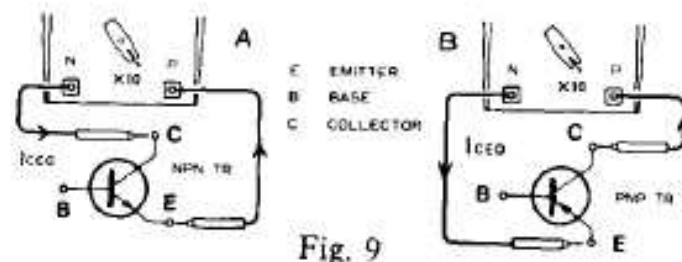
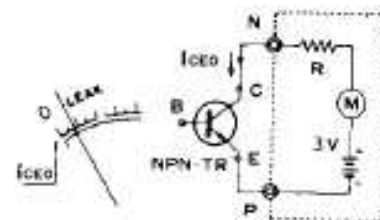

Fig. 9
Fig. 10
- 2-2 An NPN TR is connected as shown in Fig. 9-A, and a PNP TR, -B.
Represented electrically, Fig. 9 may otherwise be as Fig. 10, where the section on the right of the N and P terminals enclosed in the dotted line corresponds to the internal circuit of the tester.
- 2-3 In Fig. 10, the current flowing across the P and N terminals is I_{CEO} (reverse leakage current) of the TR, and the quantity of the leakage current is read on the LEAK scale in mA.